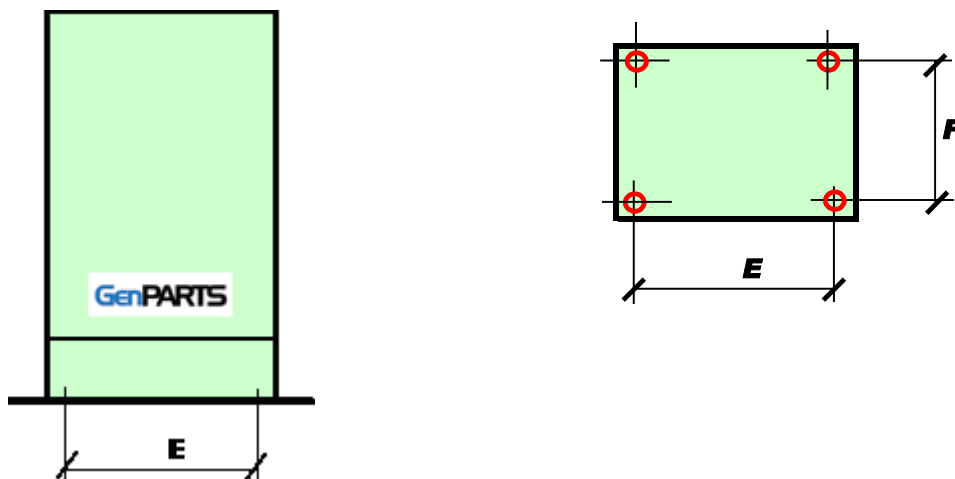

figure 2
- Floor-mounted cabinets equipped with a 200 mm high base (figure 2).